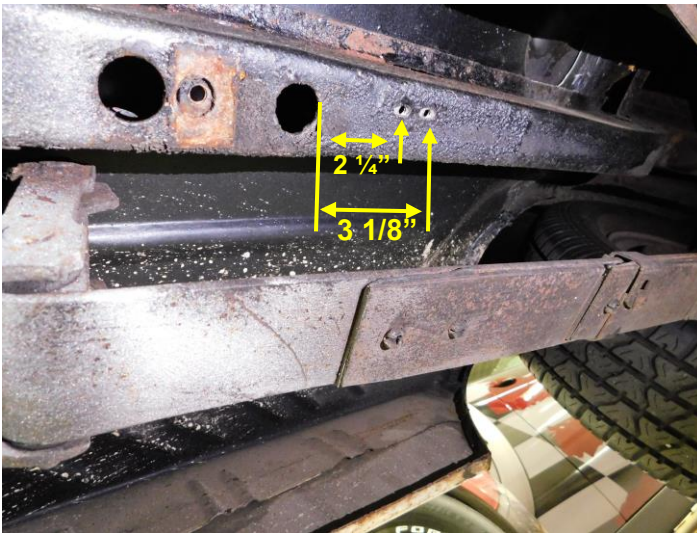
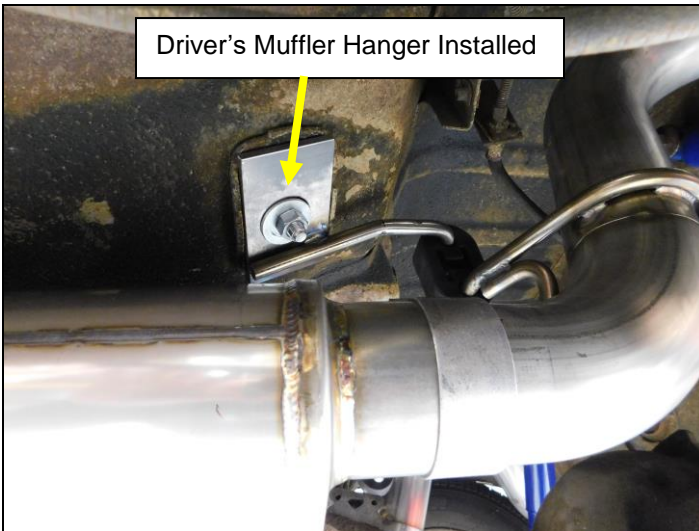

Figure 4
**Figure 6**
6. Measure from the front edge of the hole in the frame rail to 2-1/4" as shown in (Figure 4) below and mark the location. Measure 3-1/8" out from the leading edge of the hole and mark that location. Place the Hanger bracket over the marks and align the bracket slots with the reference marks centered in the slot, the bracket faces up with the bolt head against the frame rail (Figure 6). Trace the slots in the bracket with a sharp awl or scribe onto the frame rail (Figure 5). Make sure the 1/2" bolt head is tight against the frame rail during this process
10. Use the supplied 1/4-20 thread cutter bolts and anchor the tailpipe hanger bracket to the frame rail as shown in (Figures 6 & 7). An impact driver can be used to start the thread cutter, but **DO NOT** tighten the bolts with an impact driver. Apply lock tight to the threads of the bolt and tighten by hand to approximately 20ft lbs.